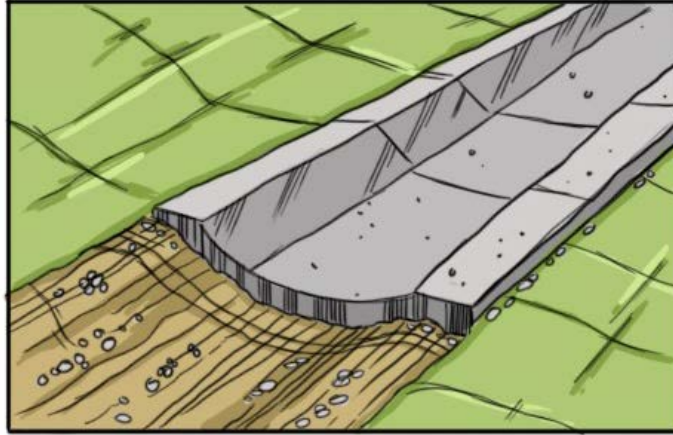

Figure 2.0.1. Channels, aqueducts and canals collect, carry, and distribute water.
- **2.1 Channels, Aqueducts, and Canals** can be earthen or lined with materials such as concrete or stone (Figure 2.0.1). These inland conveyance structures collect, carry, and distribute water for purposes such as irrigation, transportation, and water supply.